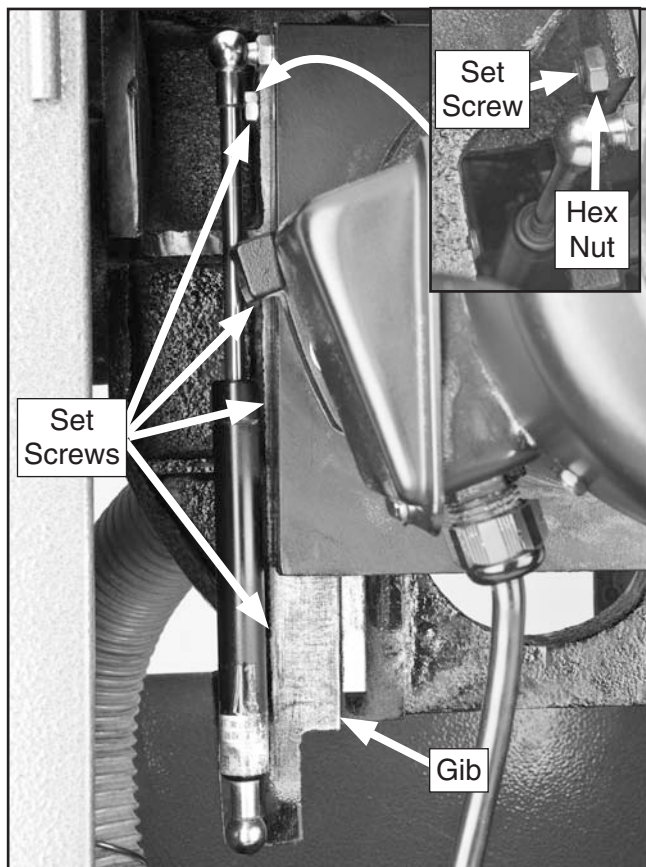

Figure 143. Elevation slide gib components.
Tension is applied to the gib by the four adjustment set screws shown in **Figure 143**.
2. Loosen the hex nuts securing the four adjustment set screws shown in **Figure 143**, then back off each set screw one full turn to release the pressure on the gib.